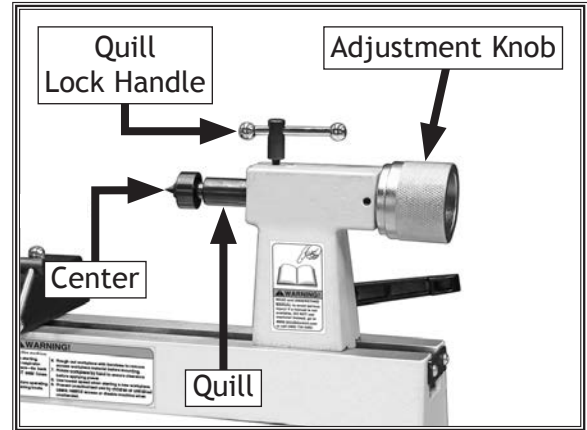

Figure 22. Tailstock center installed in quill.
1. Loosen quill lock handle, and rotate tailstock adjustment knob clockwise until quill extends about 1", as shown in **Figure 22**.
3. Firmly insert tapered end of center into tailstock quill, as shown in **Figure 22**.